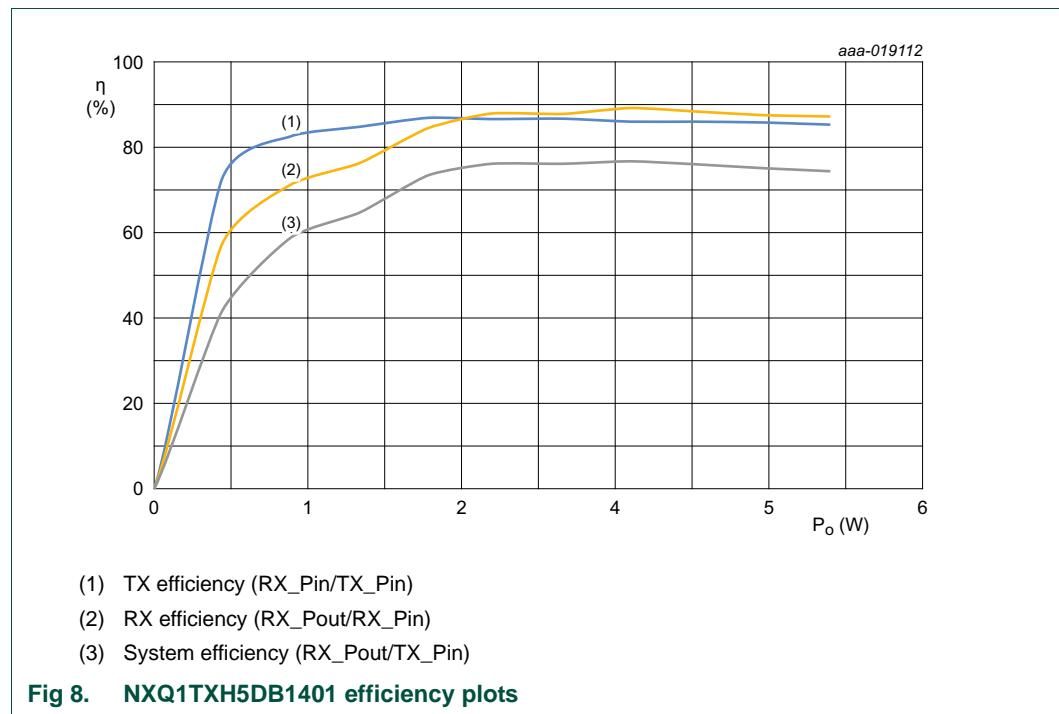

Fig 8. NXQ1TXH5DB1401 efficiency plots
In the power transfer path from the USB receptacle input to the load/battery at the output of the Qi receiver power is lost due to conversion and transfer mechanisms. In Figure 8, the typical efficiency of the NXQ1TXH5DB1401 demo board alone is shown in blue (1). The efficiency of the demo board is the fraction of input power that the NXQ1TXH5/101 application manages to convert into magnetic energy for transfer to the Qi receiver. Typically, this efficiency level is approximately 87 % at medium to high loads.
However, the system efficiency is more important to the end user. The system efficiency concerns the efficiency of the whole power chain from the USB input receptacle up to the load/battery. The typical system efficiency is shown in the gray curve (3) in Figure 8. When the transmitter and receiver coils are aligned properly, the system efficiency is approximately 74 %.